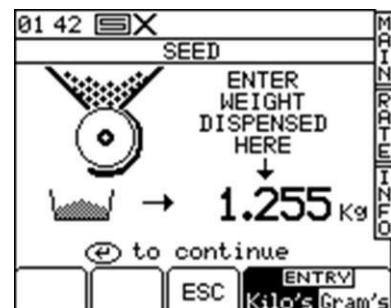

Figure 20. Calibration correction screen
4. Weigh the contents of the container, and then enter the *ACTUAL* weight dispensed (Fig.20) and press ENTER to confirm.